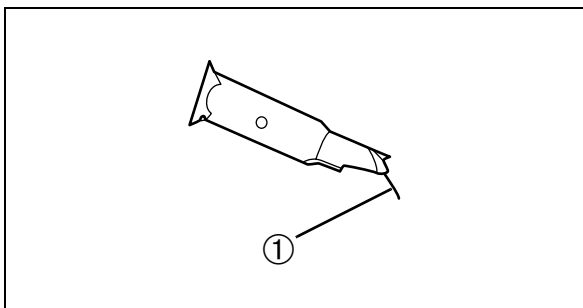

Fig. 6
- Reach under the equipment holder and press the tab ① (Fig. 6) - located at the bottom of the insert on the rear side - forwards. The insert will disengage.